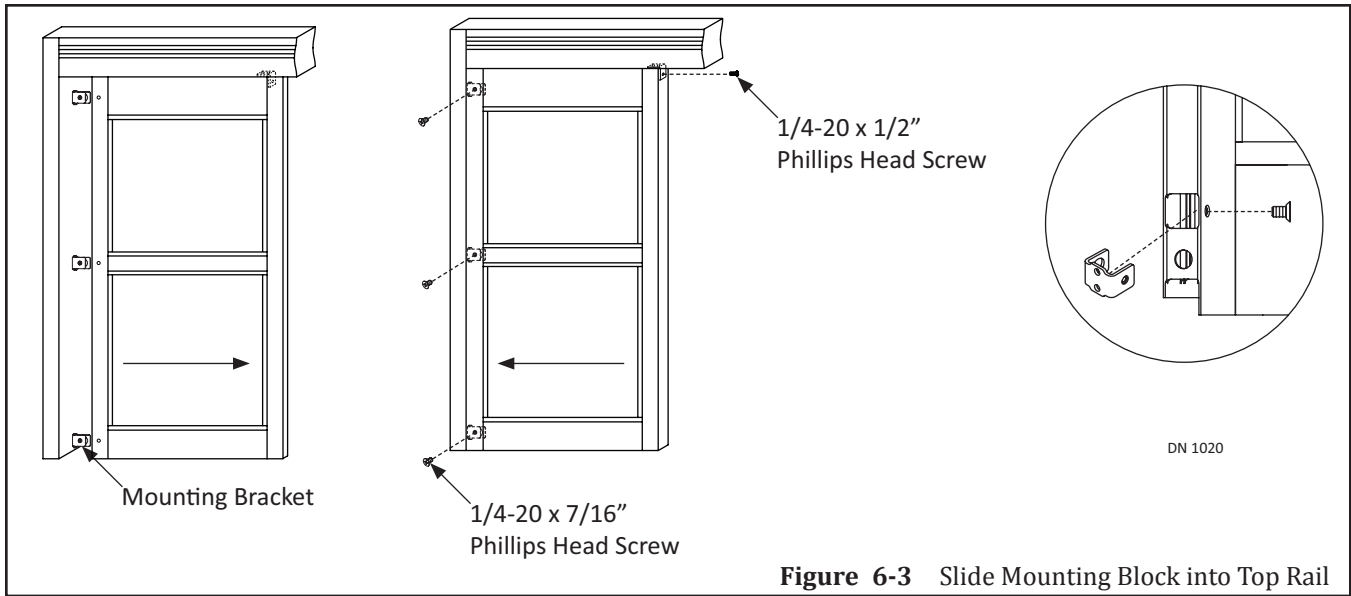

Figure 6-3 Slide Mounting Block into Top Rail
6. Locate (3) Cut Outs on the side of the Pivot Jamb Tube. Please see Figure 6-3.
7. Align and then slide the Fixed Sidelite until (3) Mounting Brackets are seated inside each Cut Out.
9. Align all (4) Mounting Bracket screw holes with the Pivot Stile screw holes and the Strike Stile screw hole.
10. Secure (3) Mounting Brackets located on the Pivot Jamb Tube to the Fixed Sidelite with (3) 1/4-20 x 7/16 inch Phillips Head screws.
11. Secure (1) Mounting Bracket located under the Bottom Lip of Header with (1) 1/4-20 x 1/2 inch Flat Head Screw.